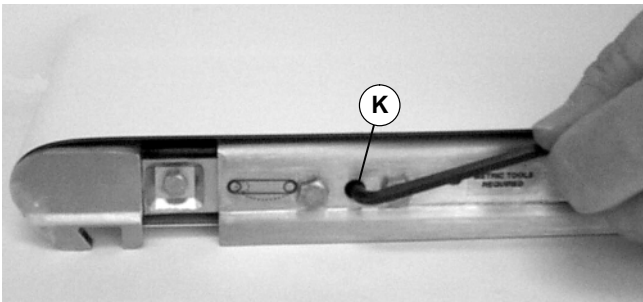

Figure 12
1. On tension end of the conveyor insert a 5 mm hex key wrench to engage pinion gear (K of Figure 12).
NOTE: On pinion gear (K of Figure 12), do not exceed of 25 in-lb (2.8 Nm). Over-tensioning the conveyor belt could cause excessive pulley bearing load and early failure.